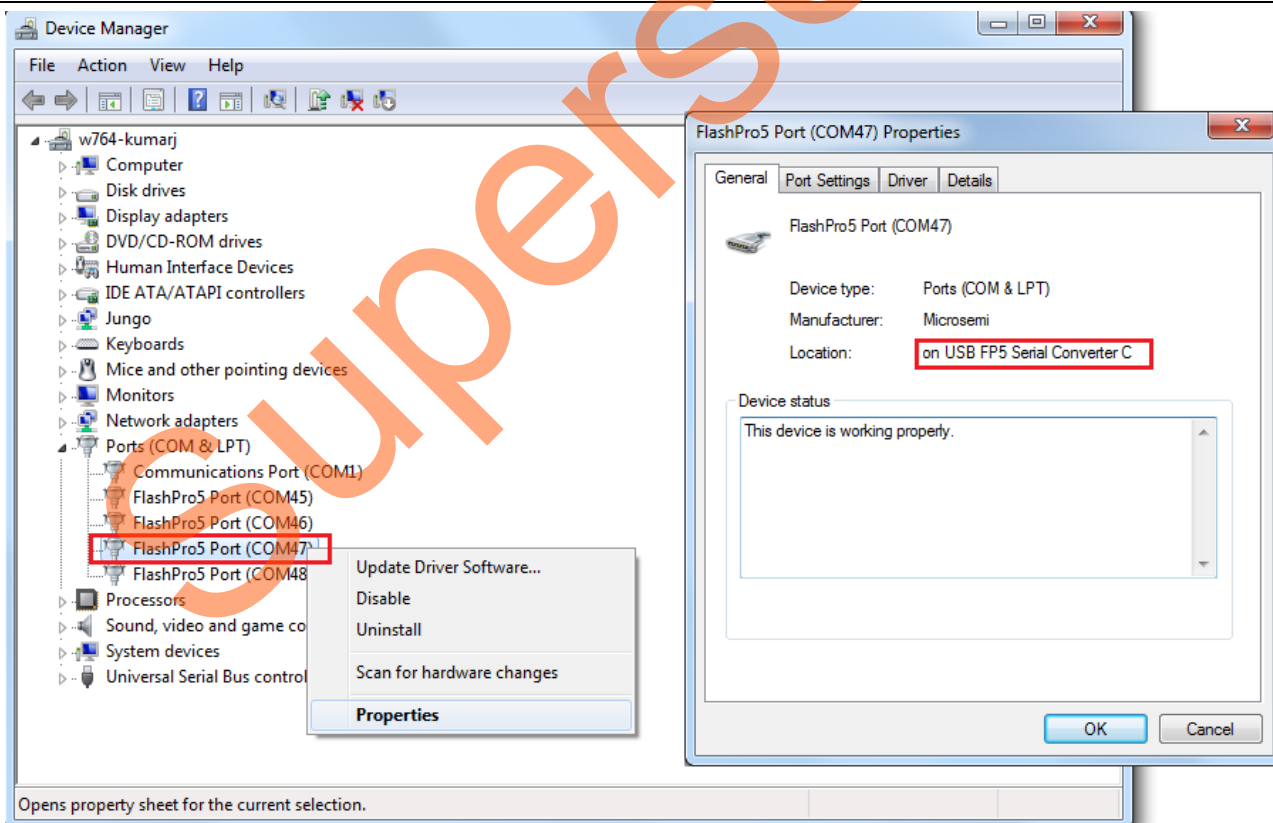

Figure 7. USB to UART Bridge Drivers
1. Connect the Host PC to the J33 Connector using the USB A to mini-B cable. The USB to UART bridge drivers are automatically detected. Verify if the detection is made in the device manager as shown in Figure 7.